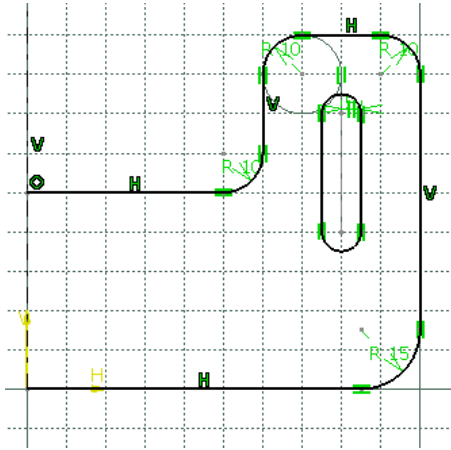

Figure 3-71 The sketch after drawing the elongated hole
12. Draw a vertical elongated hole on the right of the sketch using the **Elongated Hole** tool such that the coordinate value of start and end points are 80,40 and 80,70, respectively. Specify the value of radius as **5** in the **Radius** edit box of the **Sketch tools** toolbar, refer to Figure 3-71.